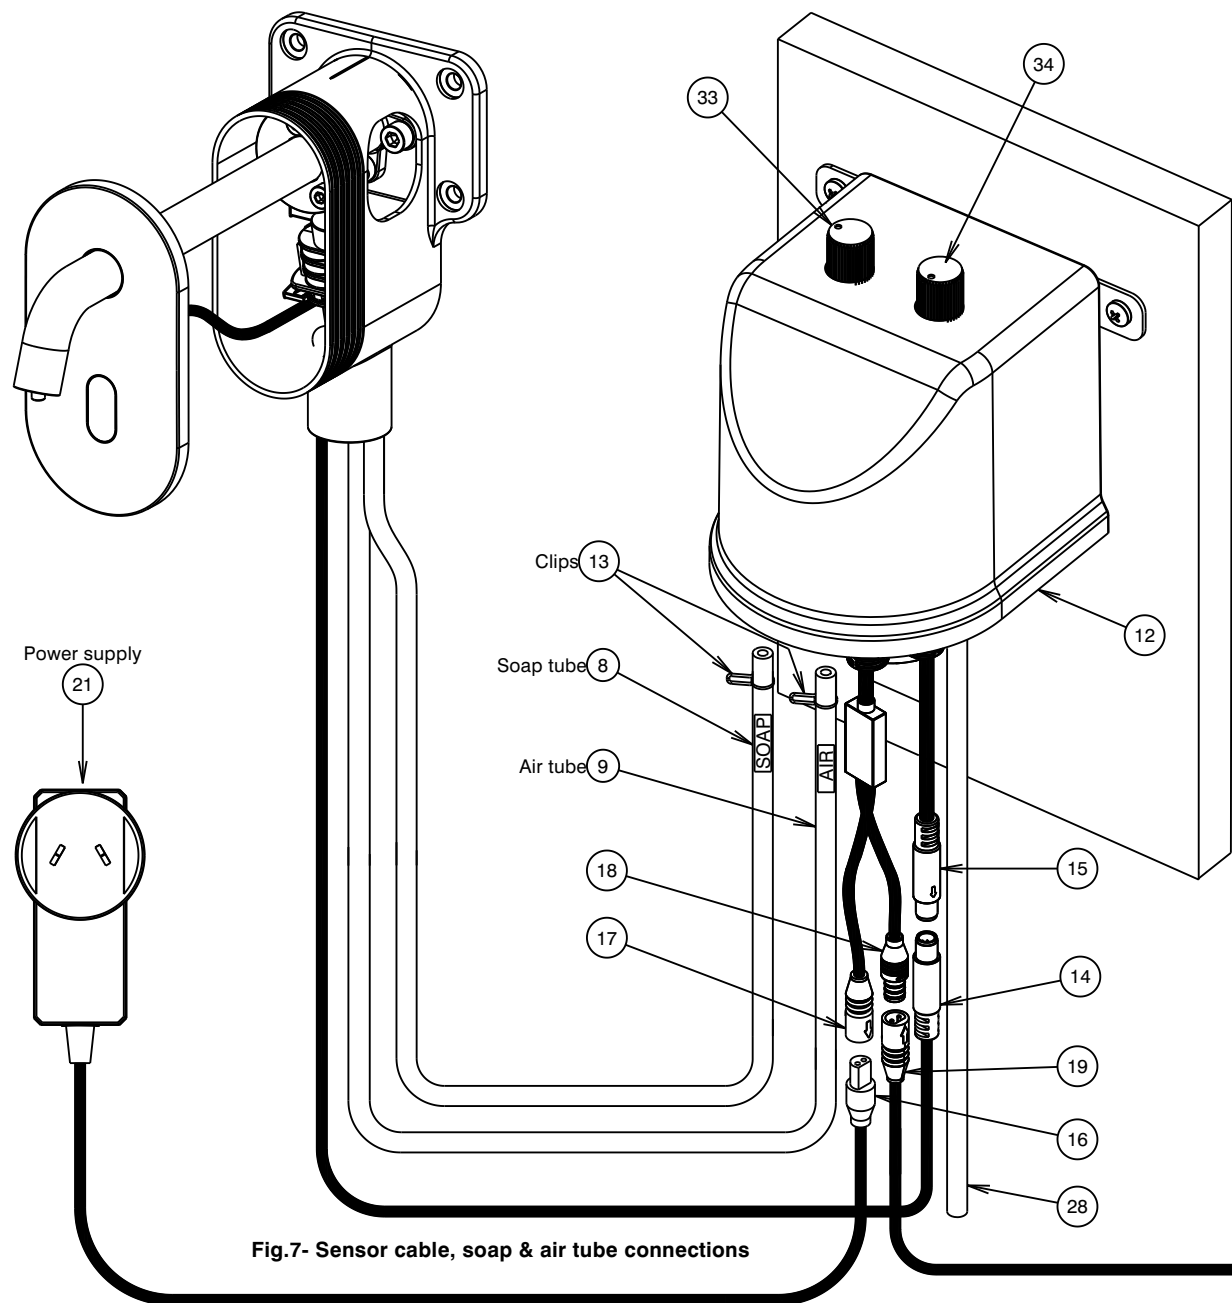
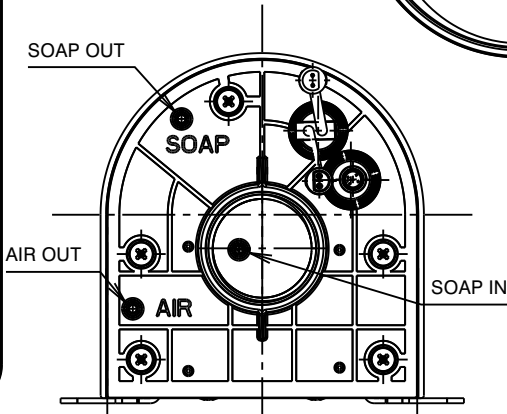

Fig.7- Sensor cable, soap & air tube connections
Fig.11 - Soap control unit ports
a) Soap tube and air tube connections, (Fig. 7 & Fig. 11):
b) Sensor cable connection, (Fig.7):
By aligning the profile of connectors (14) & (15), connect the sensor cable (14) from cover plate (10) to the end of sensor cable (15) of soap control unit as shown in Fig. 7.
While aligning the 'D' profile of male and female connectors Connect male connector of power cable (16) to female connector (17) of soap control unit (12) as shown in Fig. 7. Connect male connector (18) to female connector (19) of battery box (20). Ensure all cable connectors are pushed in fully.